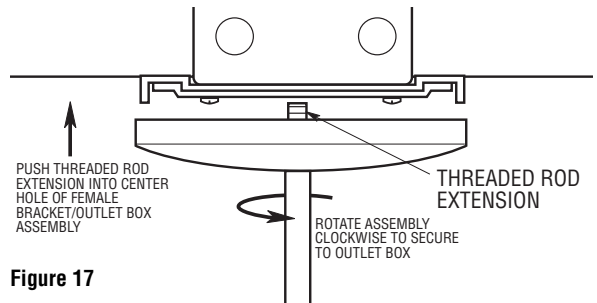

Figure 17
9. Attach the canopy/light fixture assembly to the female bracket by first pushing threaded rod into center hole of the male bracket/outlet box assembly then tighten to ceiling mount kit by turning clockwise, tightening the threaded rod extension until secure (Figure 17).